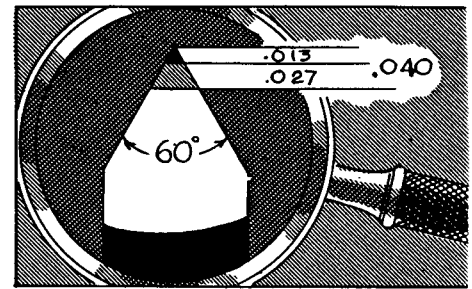
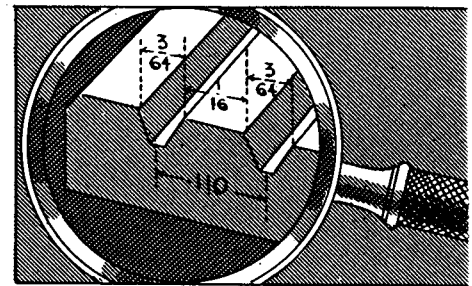

FIG. 474
FIG. 475
3. Use a tool bit ground as shown in Fig. 474.
10. Assume that a tool with a 60° point (Fig. 474) is used and that the width of the groove is $3/64$ " wide. Assume also that the distance between the grooves is $1/16$ " (Fig. 475).
If the $.013$ " which has been ground off the point of the tool (Fig. 474) is subtracted from the height of the triangle ($.040$ " - $.013$ "), the remainder ($.027$ ") will be the distance the tool must be moved down.
13. Calculate the distance between the grooves by adding the width of the flat surface to the width of the groove (Fig. 475). For example, $1/16$ " + $3/64$ " = $.0625$ " + $.0468$ " = $.1093$ ", or approximately $.110$ ".